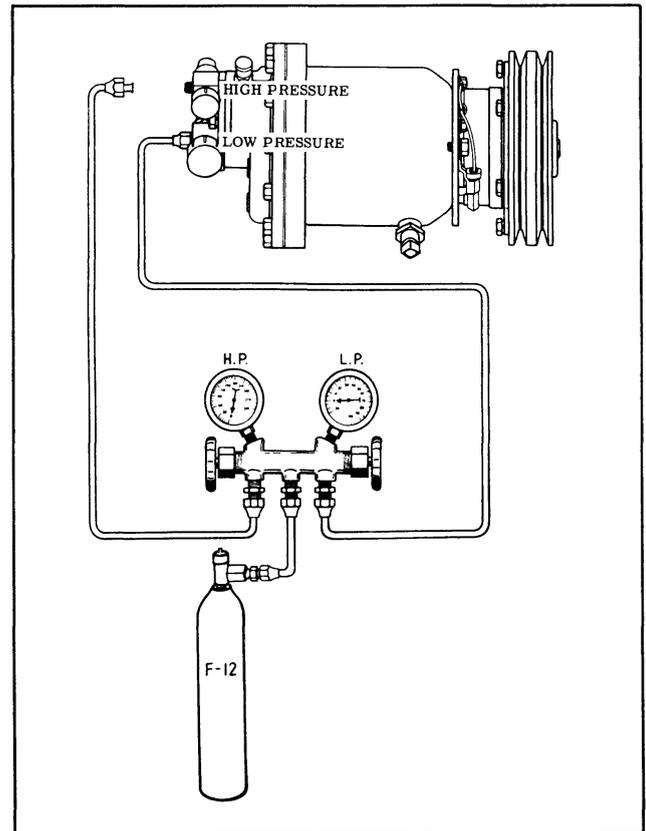

Fig. 14-37 Connections for Evacuating
13. Connect gauge set as shown in Fig. 14-37. Be sure the compressor hand shut-off valve caps are replaced after the gauge set is connected.